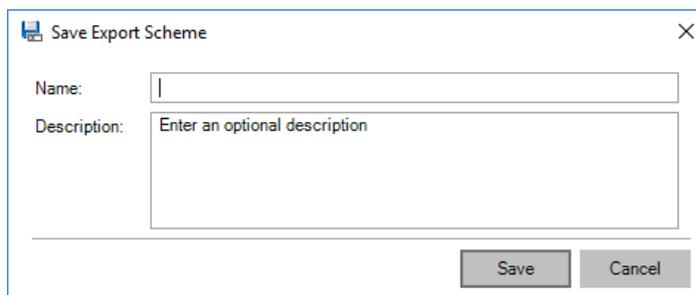

Figure 6-4. Export scheme of LabBook
- a. Click **Save As** to save the settings as your scheme. The **Save Export Scheme** dialog opens, see Figure 6-4.